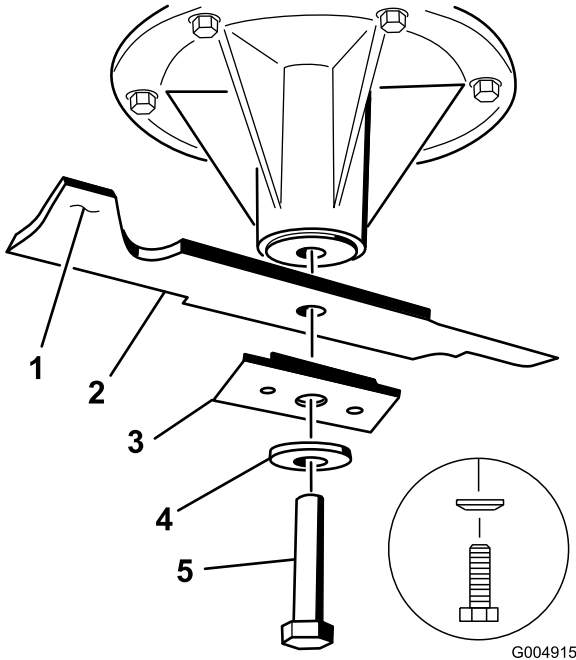

Figure 49
2. Remove the blade bolt, curved washer, blade stiffener, and blade from the spindle shaft (Figure 49).
1. Install the blade onto the spindle shaft (Figure 49).
Important: The sail part of the blade must be pointing upward, toward the inside of the mower to ensure proper cutting (Figure 49).
2. Install the blade, stiffener, curved washer, and blade bolt (Figure 49).